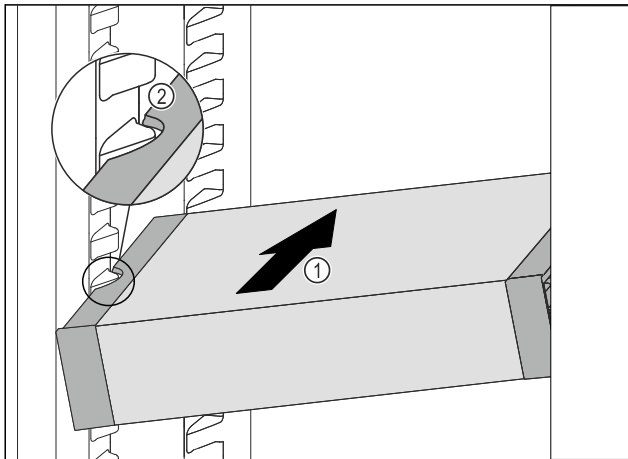

Fig. 82
- Insert the VarioSafe into the fridge section at an angle Fig. 82 (1) until the recesses in the side Fig. 82 (2) of the VarioSafe are at the level of the support rib in the fridge section.